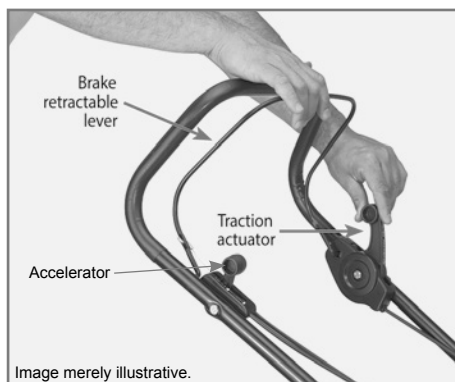

Figure 4
- ✓ Hold on tight the break retractile lever along with the cable. This engine has manual choke, therefore, position the accelerator lever in the maximum position to flood the engine (Fig. 4 - page 53). Position the acceleration lever in the position indicated by the choke symbol, according to the figure 3.
- ✓ In order to turn off the engine in an emergency situation, just release the break lever, according to the Figure 4.
- ✓ Keep the engine retractable break lever in the operation position with the engine on (Fig. 4 and 5).